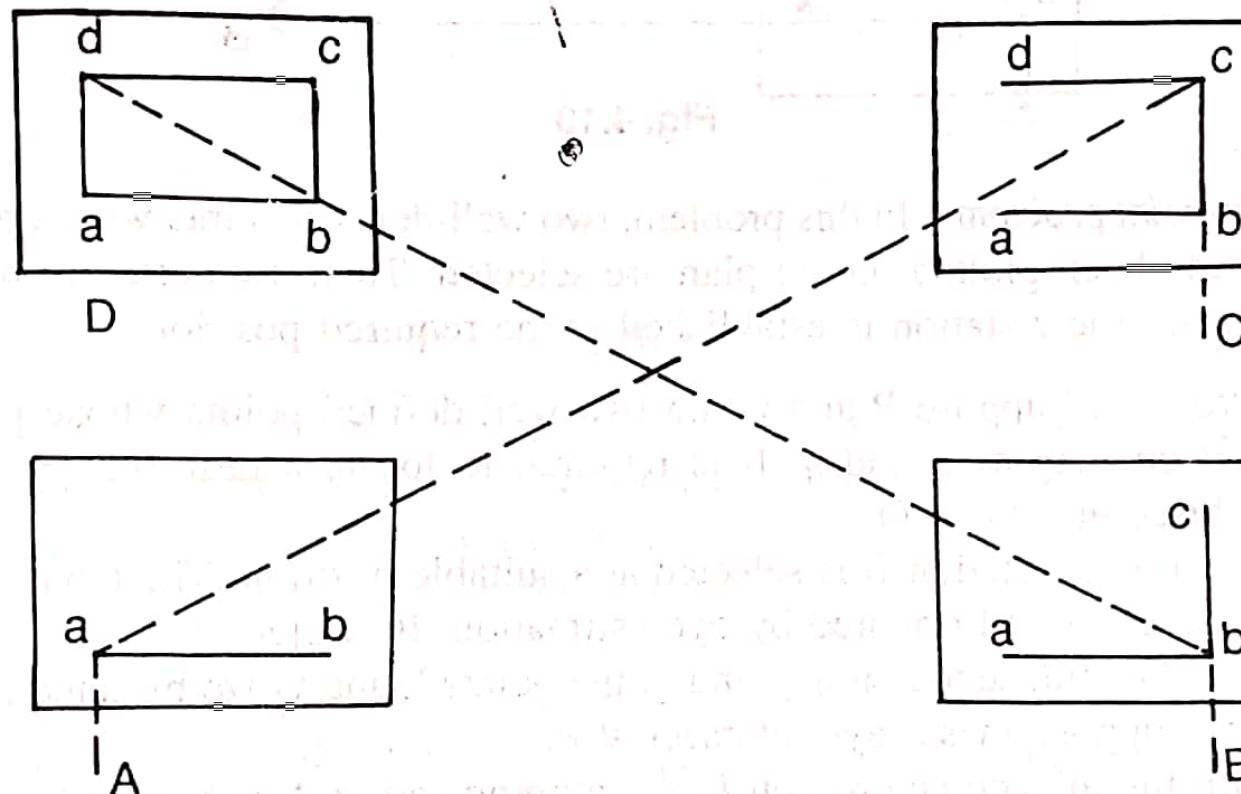

Fig. 4.12
- (j) The table is then shifted and set up at all the stations of the traverse and after proper adjustments the details are located by the radiation and intersection methods (Fig. 4.12).